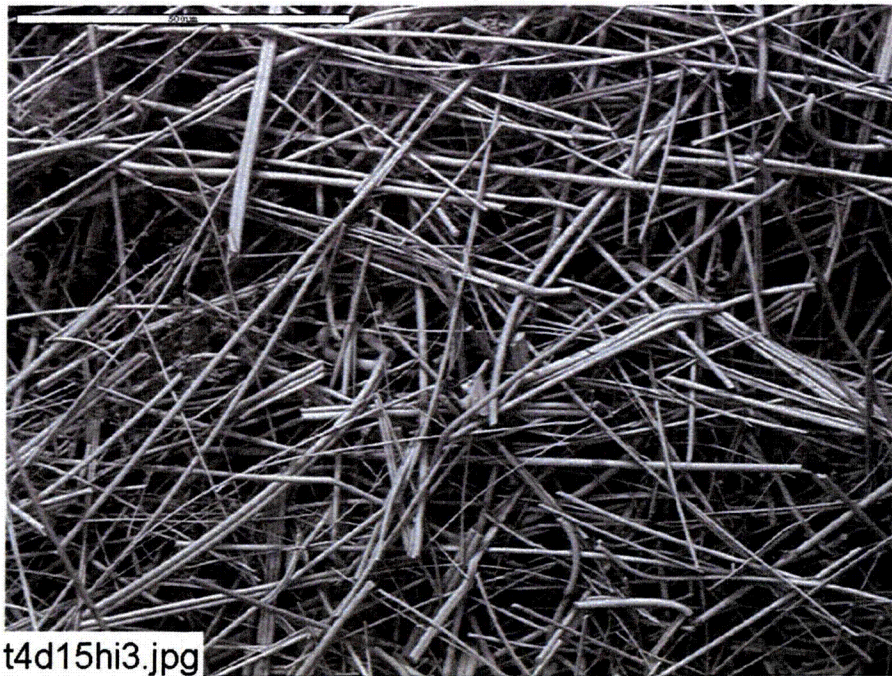

Figure B2-6. Environmental SEM image magnified 100 times for a Test #4, Day-15 interior high-flow fiberglass sample. (t4d15hi3.jpg)
- Figure B2-6. Environmental SEM image magnified 100 times for a Test #4, Day-15 interior high-flow fiberglass sample. (t4d15hi3.jpg) B2-6